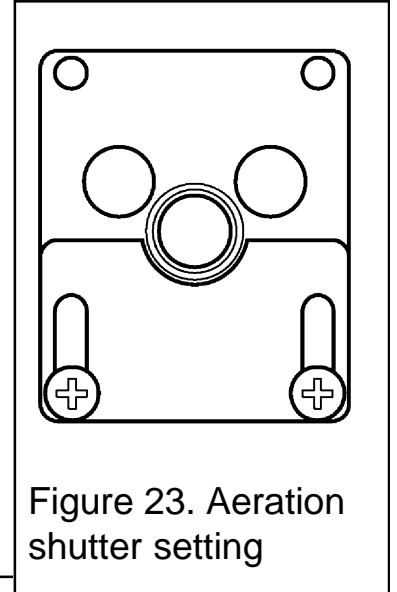

Figure 23. Aeration shutter setting
1. The aeration shutter is factory set. It is important to ensure that the aeration setting is correct. Check the aeration shutter setting (See figure 23).